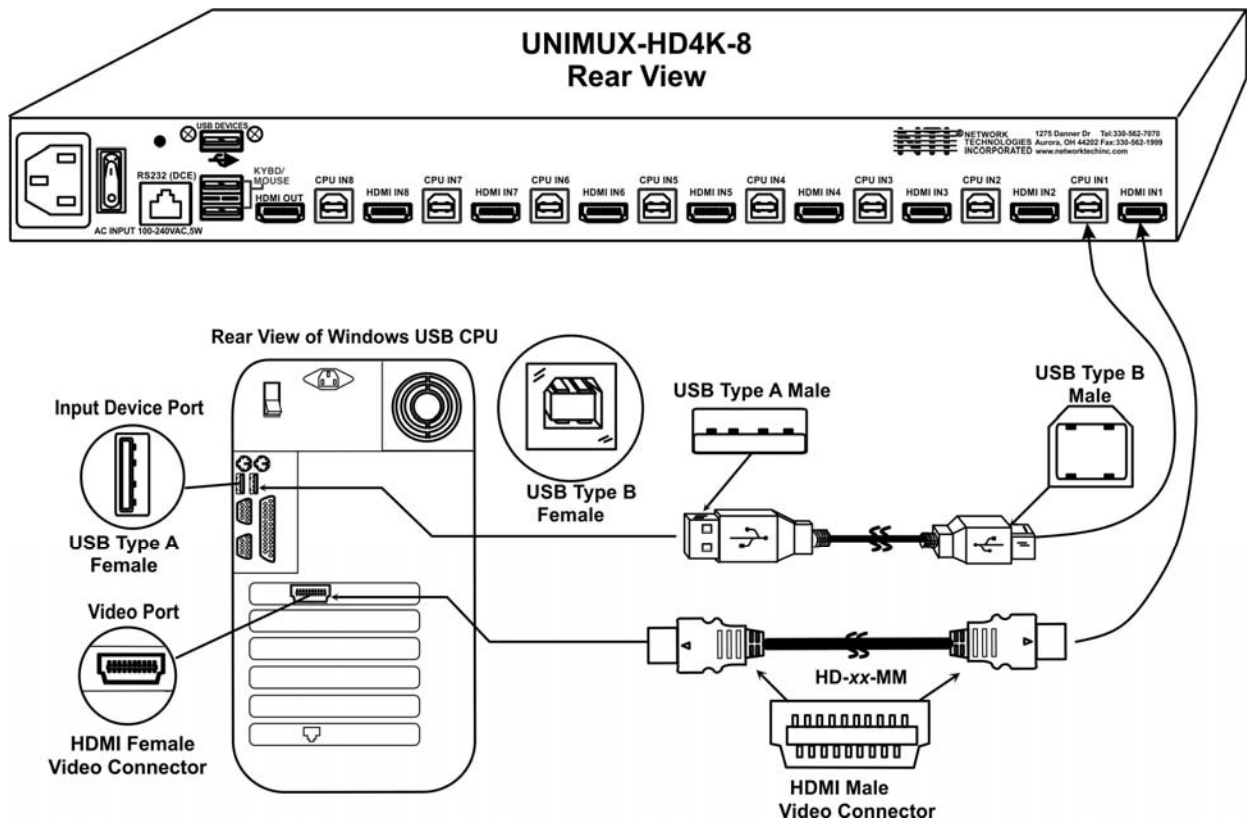

Figure 6- Connect each CPU
6. Connect each CPU to the USB switch using a HD-xx-MM video and USB Type A-B device cable – REQUIRED (not supplied). (See Fig. 6 below.)